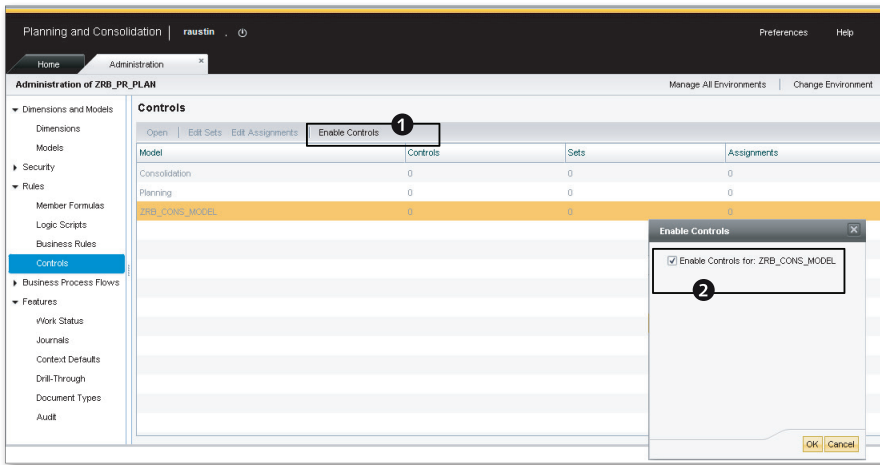

Figure 9.24 Configuring and Running Controls—Part C
3. Select the CONTROLS VIEW under the RULES domain. Select the model, and click on the menu button ENABLE CONTROLS to enable controls, and check the ENABLE CONTROLS FOR ... checkbox (Figure 9.24, ❶ and ❷). After the controls are enabled for a model, click on the menu option OPEN to create a control.